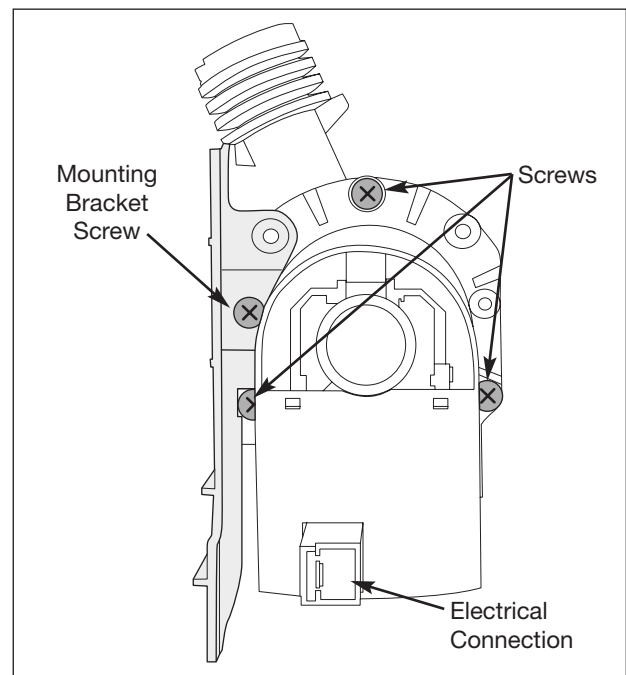

Figure 5-41. Drain pump Breakdown
7. Remove the mounting bracket from drain pump by using a phillips head screwdriver and extracting the screw that secures the mounting bracket to the drain pump. (See Figure 5-41)